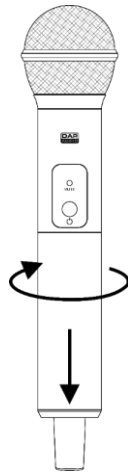

Fig. 06
- 01) Turn the battery cover clockwise, in order to loosen it. Remove the battery cover (Fig. 06).